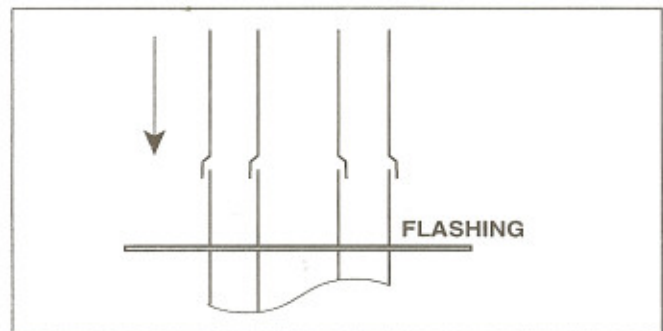

Figure 2.
2. Attach smaller diameter flue pipe to existing flue pipe as shown in Figure 2 by inserting the larger diameter end with stop bead into existing flue and push down to stop. Attach larger diameter outer combustion air pipe onto outer pipe and push downward until pipe seats on stop bead. Secure the outer combustion air pipe in place using the 3 #10 sheet metal screws supplied.